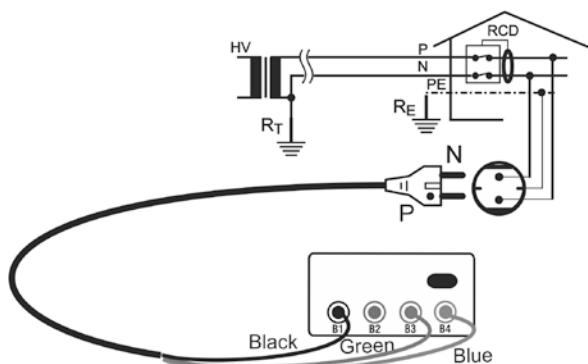
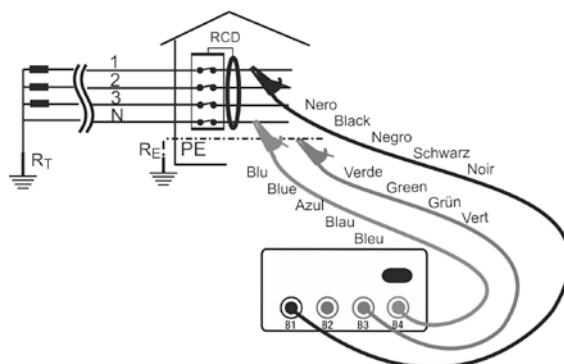
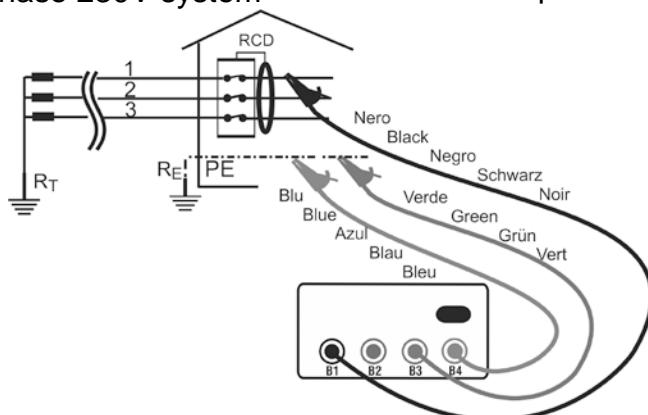

Fig. 13: Connection for Ra measuring of single-phase/two-phase 230V system
Fig. 14: Connection for Ra measuring of three-phase 400V + N system
Fig. 15: Connection for Ra measuring of three-phase 230V o 400V system without N
2. Insert the 3 Black, Green, Blue connectors of the shuko cable or of the separate cables into the relevant instrument input terminals **B1**, **B3**, **B4** (see Fig. 13, Fig. 14, Fig. 15). In case separate cables are used, insert alligator clips on the free cable ends.
3. Insert the Shuko plug into a 230V 50Hz socket or the alligator clips onto the conductors of the three-phase system (see Fig. 13, Fig. 14, Fig. 15)